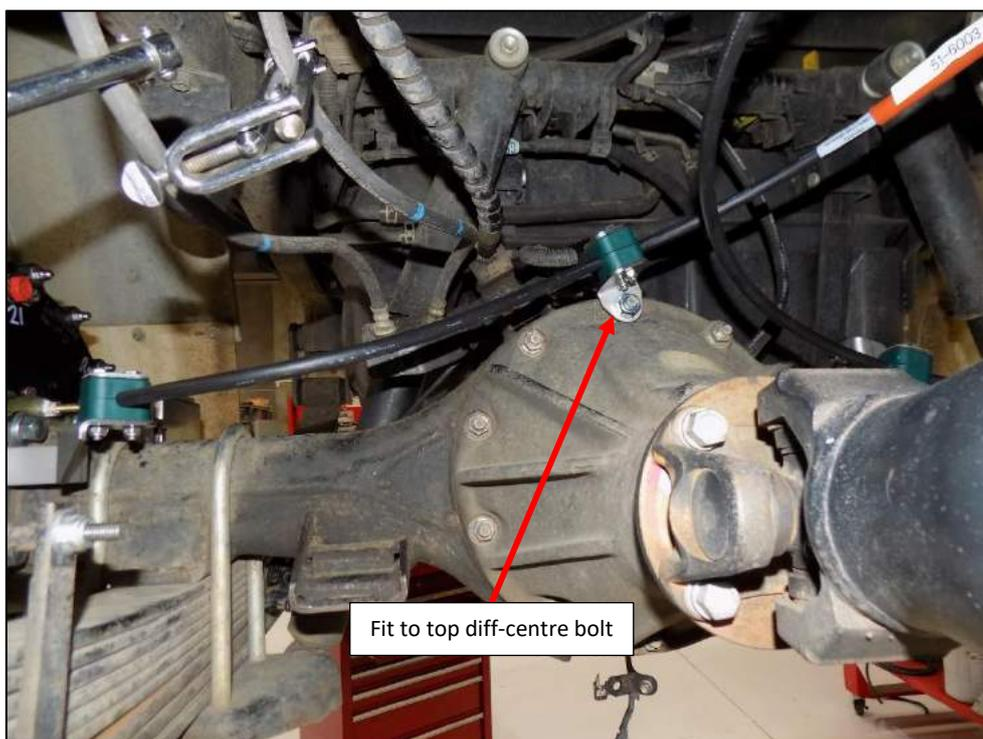

Figure 38
28. The RH-2 cable clamp is attached to the top diff-centre stud (Figure 38). Unclip the harness from the OEM plastic cable clamp. Remove the bracket attached to the differential and discard the bracket and plastic cable clamp. **Note:** The OEM nut securing the diff-housing should not be removed.